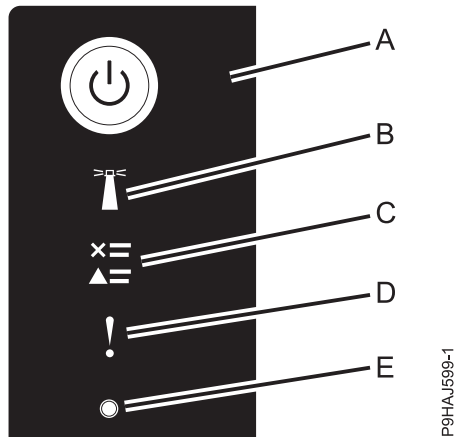

Figure 2. Control panel LEDs
- The power LED (A), as shown in the following figure, is slowly flashing.
3. Press the power button (A) on the control panel, as shown in Figure 2.